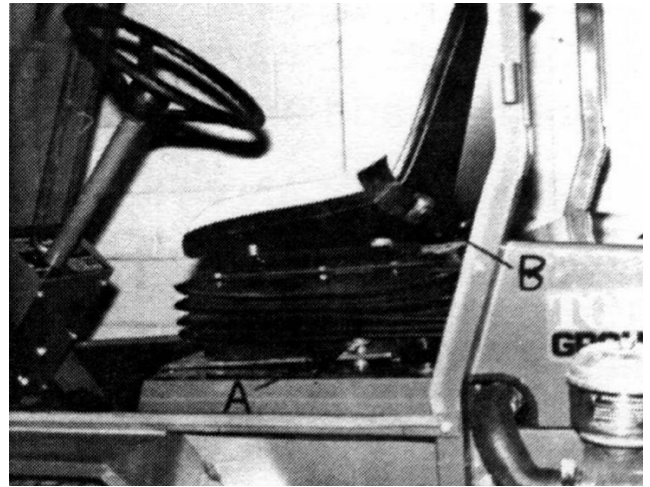

Figure 2
A. Install seat belt to holes provided in the back of seat using $7/16"$ x $1"$ Grade 5 bolts, and lock washers. Figure 2